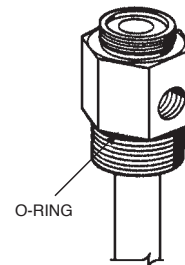

FIGURE 8-17
15. Examine threads on each adaptor and tank collar for nicks, burrs, or cross-threading. Clean and coat o-ring with a good grade of extreme temperature grease. Make certain bursting disc is in place and silver side is away from tank. See Figure 8-17.